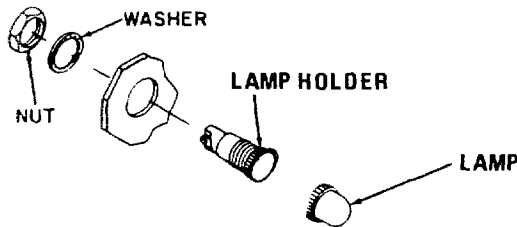

Figure 4-34. Panel Lights, Removal and Replacement
b. Replacement. Tag and disconnect wires to DS1, DS2, and DS3. Remove and replace panel lights as illustrated in figure 4-34.